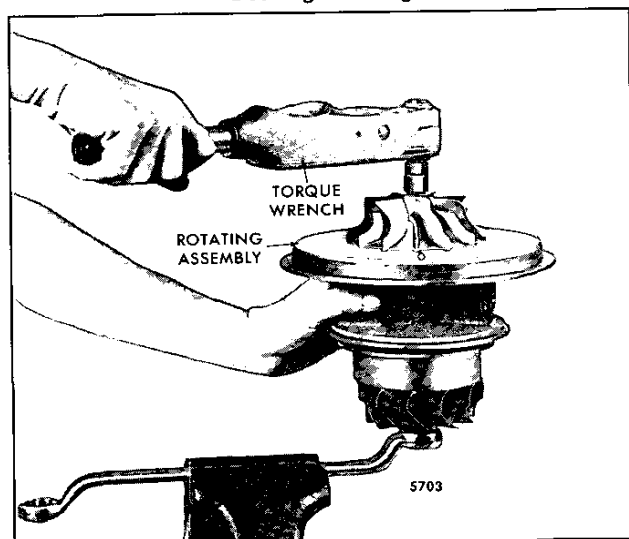

Fig. 18 – Tightening Compressor Locknut
16. Lubricate the back face and threads of the lock nut with anti-seize compound. Install the lock nut on the shaft finger tight (until elastic of nut engages shaft threads) and place an 11/16" socket on the turbine wheel lug to prevent the shaft from turning. Use a torque wrench to tighten the lock nut to 13 lb-ft (18 N·m) torque (Fig. 18).